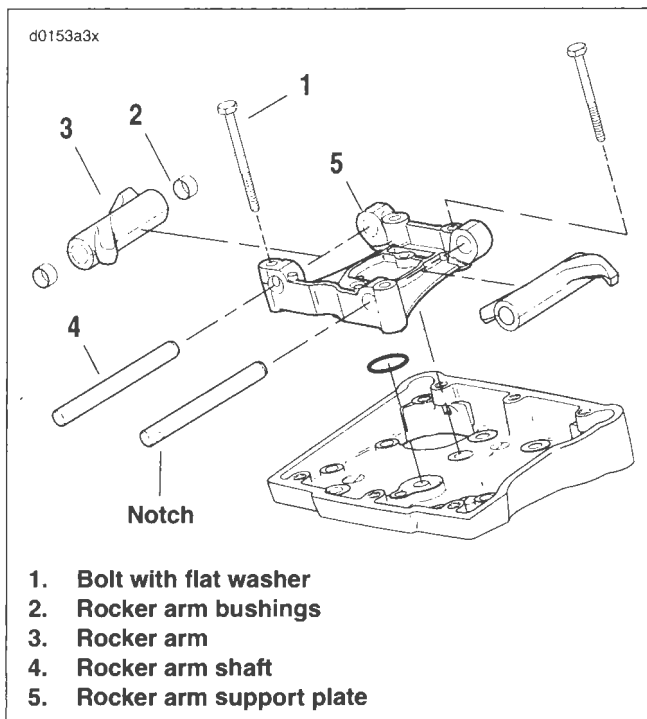

Figure 3-87. Rocker Arm Assembly
1. See Figure 3-87. Remove four bolts with flat washers (1) from the rocker arm support plate (5). The rocker arm shafts (4) on the push rod side (right) are notched to lock them in position.
2. Using a hammer and brass drift, tap left side of rocker arm shafts (4) so that the notched ends exit the rocker arm support plate (5) first. Mark the shafts so that they are installed in their original locations at time of assembly.
2. See Figure 3-87. Check rocker arms (3) for uneven wear or pitting where contact is made with the valve stem tips. Check for concave wear where rocker arms contact the push rod ends. Replace rocker arm if excessive wear is found at either location.
3. Verify that oil holes in rocker arms and rocker arm support plate (5) are clean and open.
4. Inspect rocker arm shafts (4) for scratches, burrs, scoring or excessive wear. Replace as necessary.